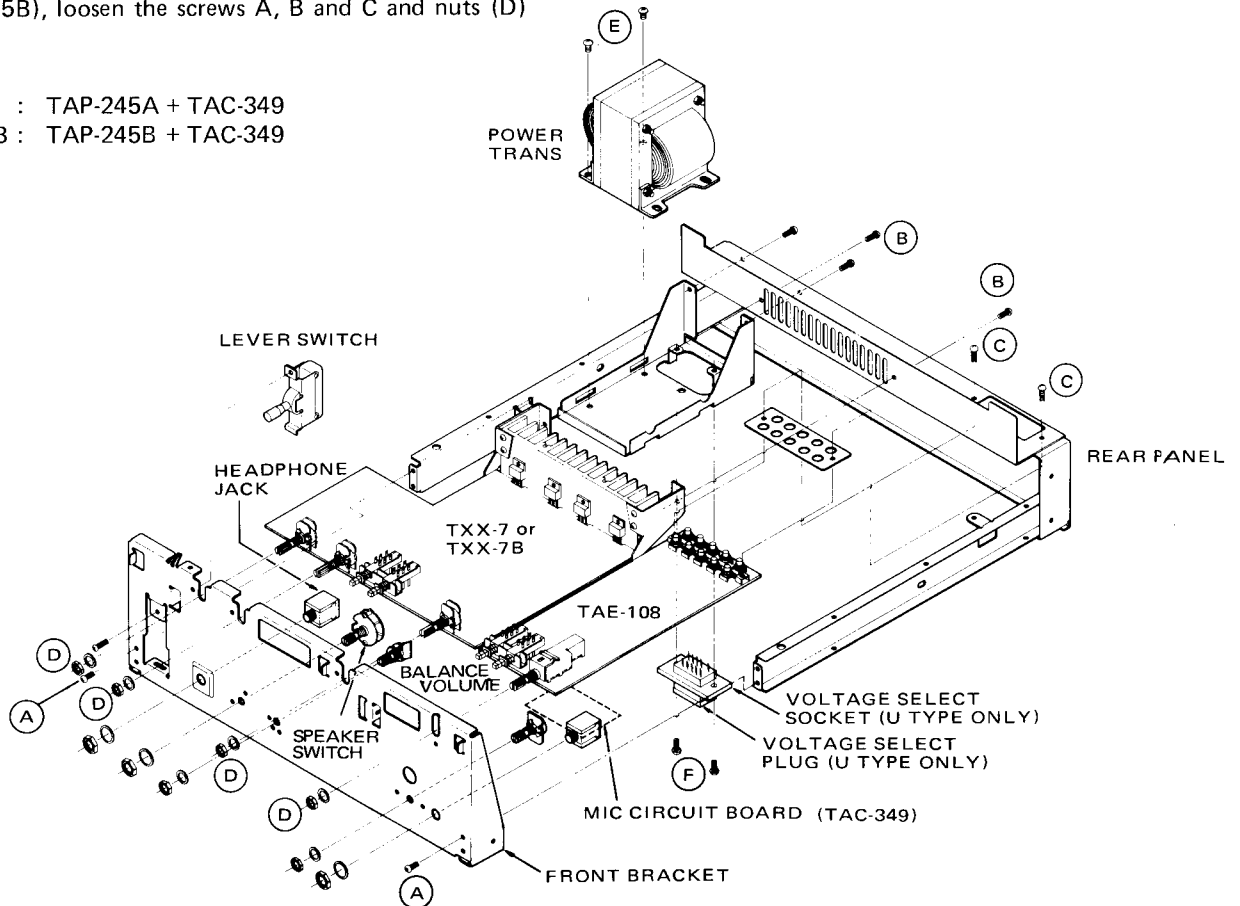

Fig. 6
1. Use the provided illustration to remove the front panel, bottom plate and top cover. Then the lever switch, headphone jack, speaker switch, balance control and microphone circuit board assembly, can simply be replaced as shown in Fig. 6.
2. To remove TAE-108 and TAP-245A ("E" type: TAP-245B), loosen the screws A, B and C and nuts (D)
shown in Fig. 6. Remove the bottom plate, too.
3. To replace the power transformer, loosen the screws E and install a new one as shown in Fig. 6.
To replace the selectable voltage socket, first remove the bottom plate and loosen the screws F as shown in Fig. 6.